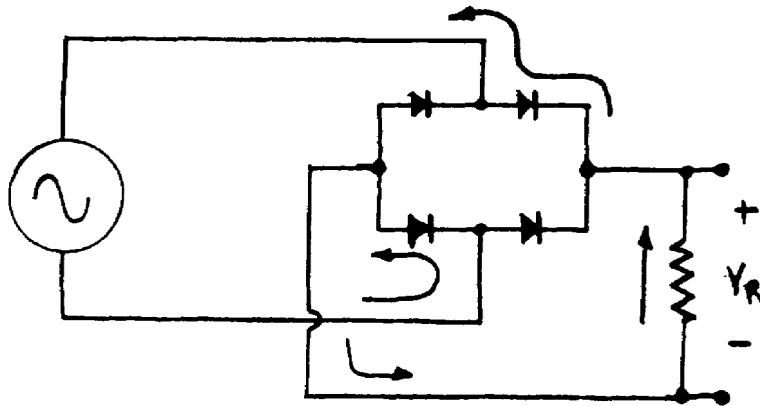
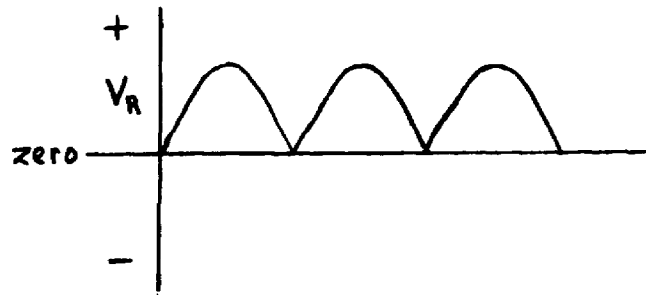

Figure 30. Full-wave rectifier t_1 .
Figure 32. Full-wave rectified voltage.
e. Using four diodes, a circuit can be arranged to cause current to flow in the same direction through the resistor during both the positive and negative half cycles. The circuit is called a full-wave rectifier, for the whole cycle is developed across the resistor in the positive direction. (Study figures 30 and 31.)
f. The output is increased when four diodes are used to provide full wave rectification (fig 32). Note that the current is more continuous than with one diode, but that the current varies from a maximum value to a zero value. It is particularly important to observe that the current flow through the external load resistor is in one direction only (fig 30 and 31). The AC voltage and current have, therefore, been rectified to a unidirectional or DC voltage and current. This circuit arrangement could be used to charge a DC battery, but it does not produce the most output that can be obtained in a generator.